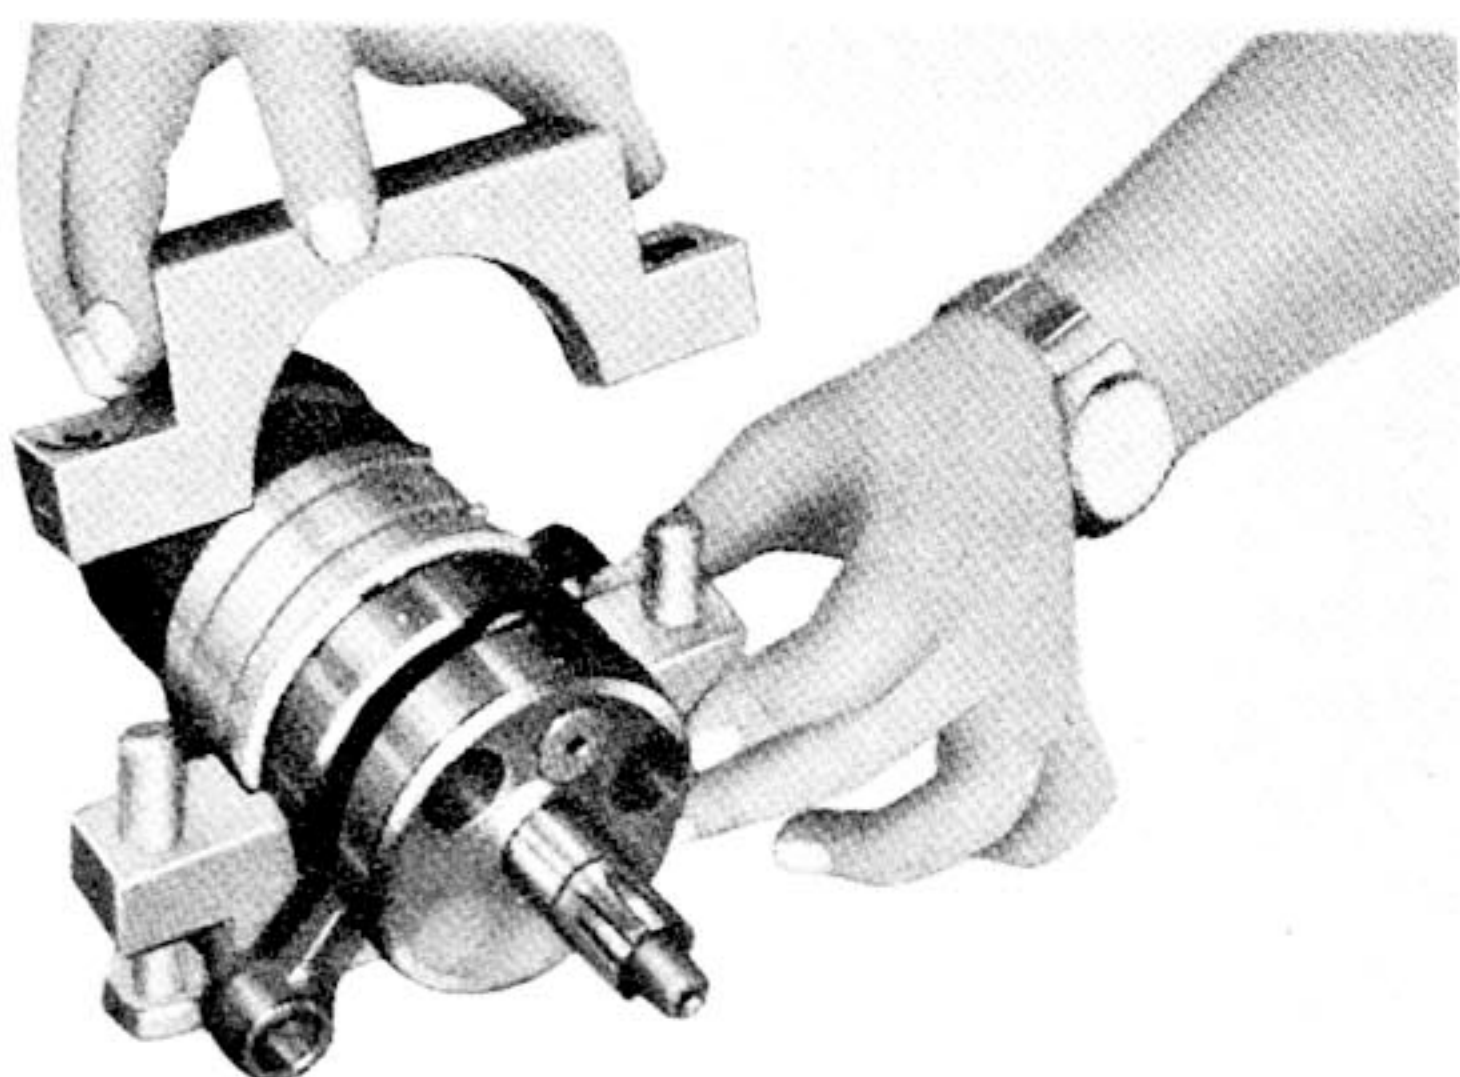

Fig. 4-17-5
- (1) Insert the tool (1) into the gap between the crankwheel and the crank cover. (Fig. 4-17-5)